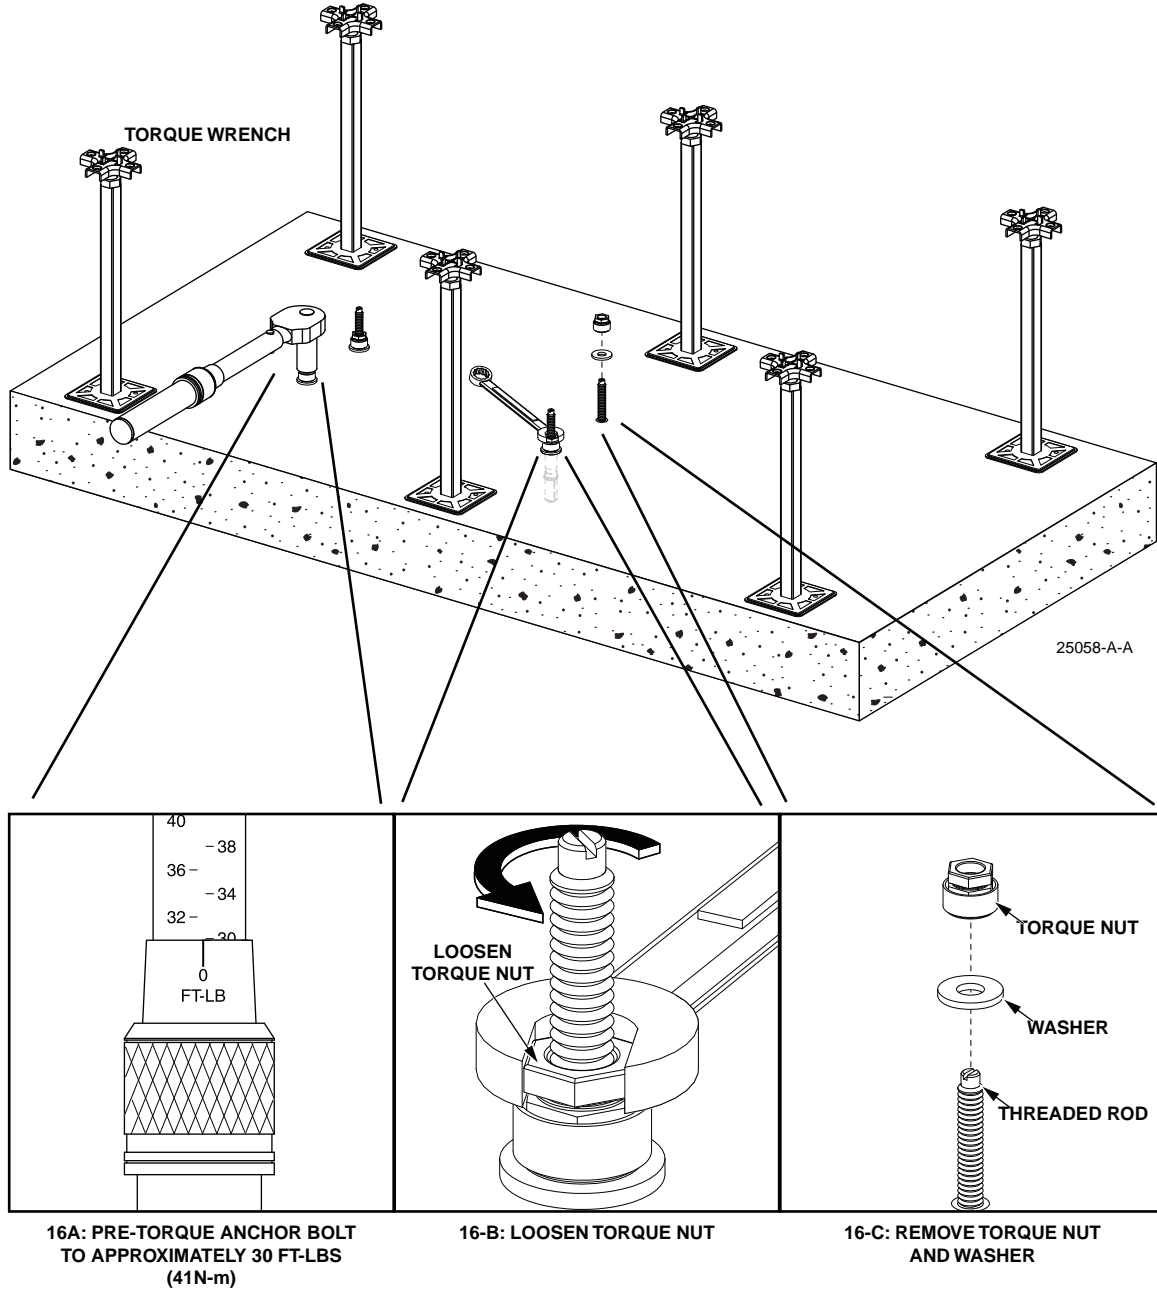

Figure 16. Pre-torquing Anchor Bolts
15. Pre-torque the anchor bolts approximately 30 ft-lbs (41 Newton meters) (16A). Loosen the torque nut several turns (16B). Then remove the torque nut and washer (16C). Refer to Figure 16.